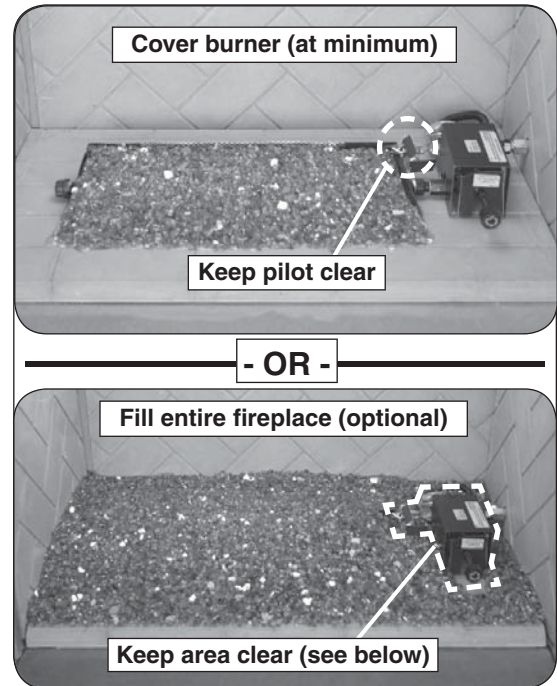
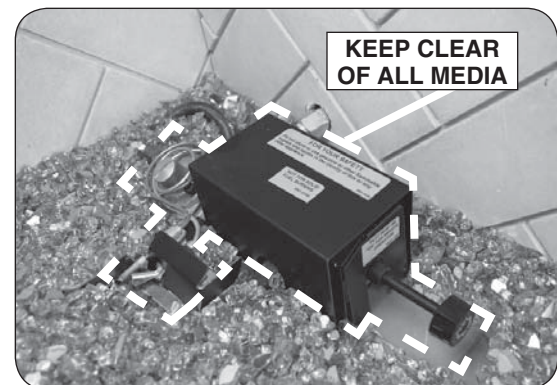

Fig. 20-1 Glass media placement
Fig. 20-3 Keep pilot, valve, & shield clear
1. After the required sand/vermiculite and screen have been placed, pour the glass media (glass, gems) so that the burner pan is covered completely and evenly (see Fig. 20-1).
- DO NOT place any glass media directly on the pilot assembly, on or within the heatshield, or under a knob if one exists at the front of the valve (see Fig. 20-1 and Fig. 20-3).
2. Complete placement by pouring the remaining glass media on the floor of the fireplace, around the front, rear, and sides of the burner system (see Fig. 20-1).
**KEEP SAND/VERMICULITE, GLASS/GEMS, AND ALL FOREIGN OBJECTS AWAY FROM THE PILOT ASSEMBLY, VALVE ASSEMBLY, AND HEAT SHIELD DURING MEDIA PLACEMENT AND AT ALL TIMES. SEE FIG. 20-3.**